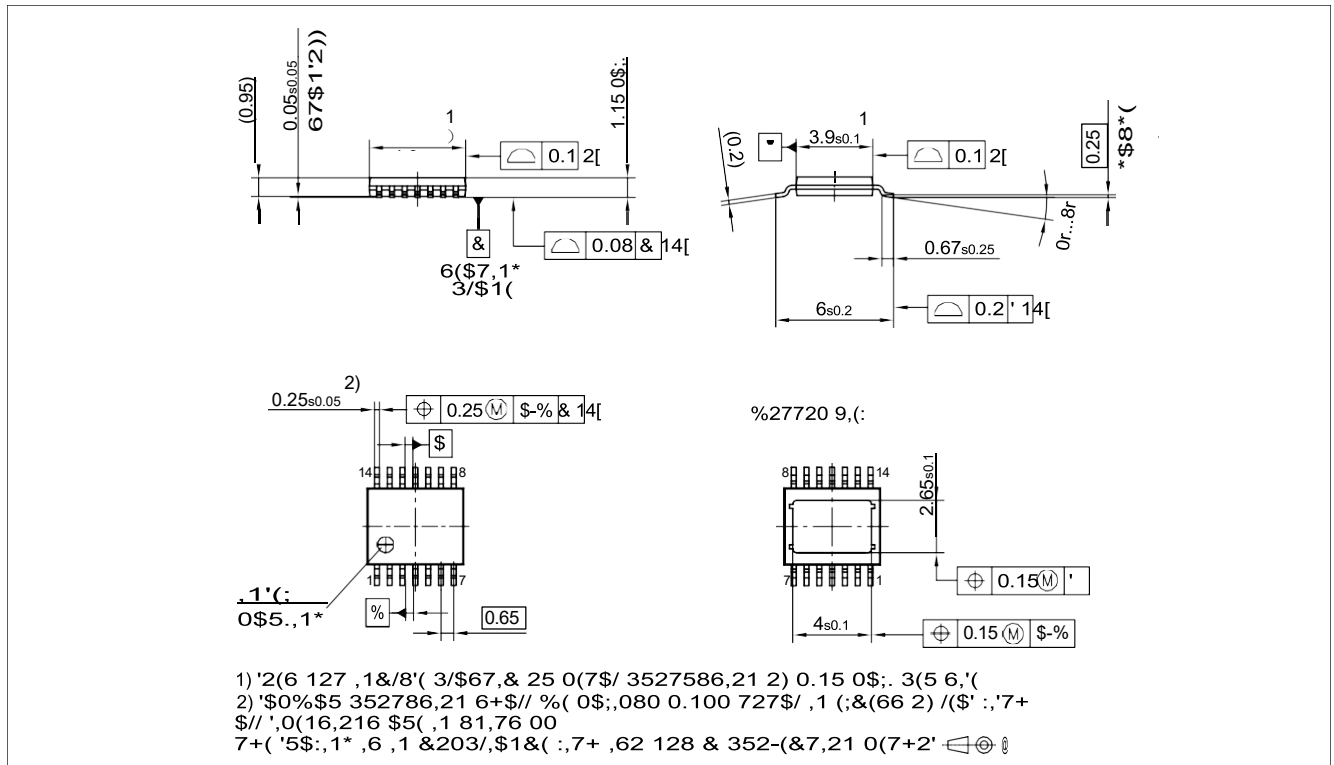
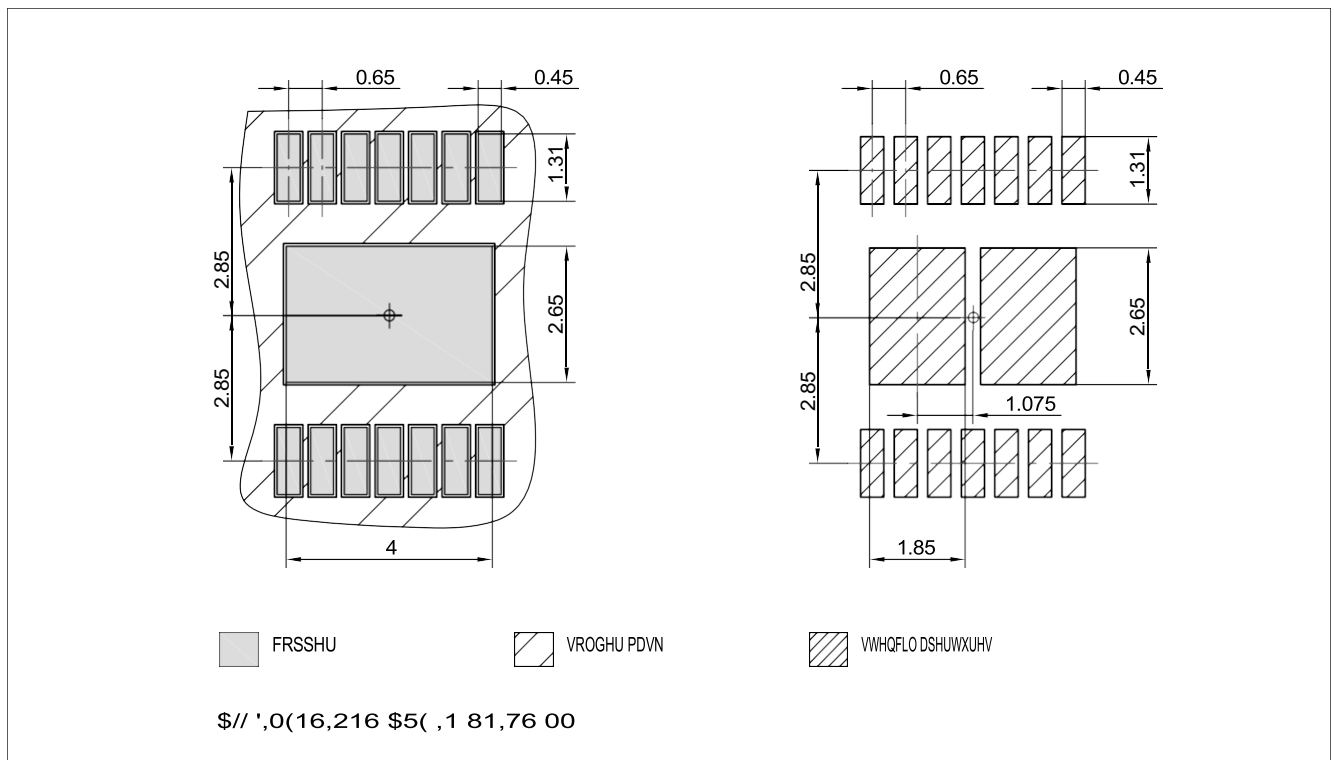

Figure 44 PG-TSDSO-14 (Thin (Slim) Dual Small Outline 14 pins) Package Outline
Figure 45 PG-TSDSO-14 (Thin (Slim) Dual Small Outline 14 pins) Package pads and stencil
1.03, 2018-10-18	<p>Chapter 9.3.1 updated (typo)</p> <p>Page 1: updated (Package PG-TSDSO-14-22 → Package PG-TSDSO-14)</p> <p>Figure 29 updated</p> <p>Figure 44 updated (PG-TSDSO-14-22 (Thin (Slim) Dual Small Outline 14 pins) Package Outline → PG-TSDSO-14 (Thin (Slim) Dual Small Outline 14 pins) Package Outline)</p> <p>Figure 45 updated (PG-TSDSO-14-22 (Thin (Slim) Dual Small Outline 14 pins) Package pads and stencil → PG-TSDSO-14 (Thin (Slim) Dual Small Outline 14 pins) Package pads and stencil)</p> <p>Table 1 updated ((Symbol: $I_{\text{VS(SLEEP)}} \rightarrow I_{\text{VS(SLEEP)_85}}$), (Parameter: Minimum Overvoltage protection ($T_J = 25\text{ °C}$) → Minimum Overvoltage protection ($T_J \geq 25\text{ °C}$))</p> <p>P_9.6.0.6 updated (Note or Test Condition: removed unnecessary line-break)</p> <p>Chapter 7.4.1 updated chapter title (PROFET → PROFET™) Table 12 updated table title (PROFET → PROFET™) Chapter 8.6.1 updated chapter title (PROFET → PROFET™) Table 16 updated table title (PROFET → PROFET™) Chapter 9.5.1 updated chapter title (PROFET → PROFET™) Table 21 updated table title (PROFET → PROFET™)</p> <p>P_4.1.0.21, P_4.1.0.22, P_4.1.0.23, P_4.1.0.24 updated (footnote ESD standards)</p> <p>Table 1 updated ($R_{\text{DS(ON)}} \rightarrow R_{\text{DS(ON)_150}}$), ($V_{\text{DS(CLAMP)}} \rightarrow V_{\text{DS(CLAMP)_25}}$)</p> <p>Chapter 8.5.2 updated phrasing</p> <p>P_7.5.3.14 Table subheading "Switching Energy" added P_7.5.3.15 Table subheading "Switching Energy" added Chapter 6.4 added conditions</p> <p>Chapter 7.5 added conditions</p> <p>P_7.5.3.14 updated (Test condition: add "See Figure") P_7.5.3.15 updated (Test condition: add "See Figure") Chapter 8.7 added conditions</p> <p>Chapter 9.6 added conditions</p> <p>P_9.7.3.27 updated (Test condition: add "See Figure") P_9.7.3.29 updated (Test condition: add "See Figure") Chapter 7.3.1 typo corrected (link to Figure 19 added)</p>